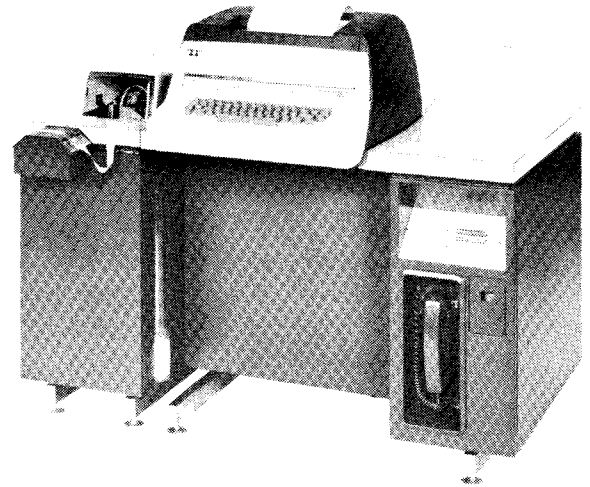

Figure 1 - 37 Automatic Send-Receive (ASR) Teletypewriter Set
1.01 This section provides troubleshooting information for the 37 Automatic Send-Receive (ASR) Teletypewriter Set which is used in switched network service (Figure 1).